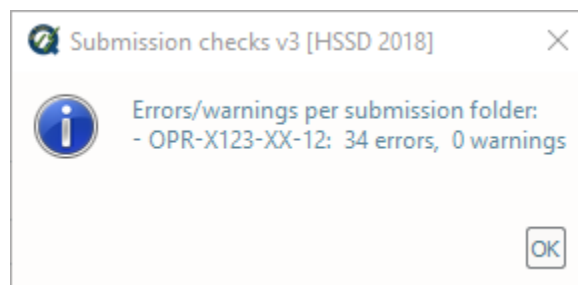

Fig. 2.32: The **Submission check** output message.
- After computing, the output window opens automatically, and the results are shown (Fig. 2.32).